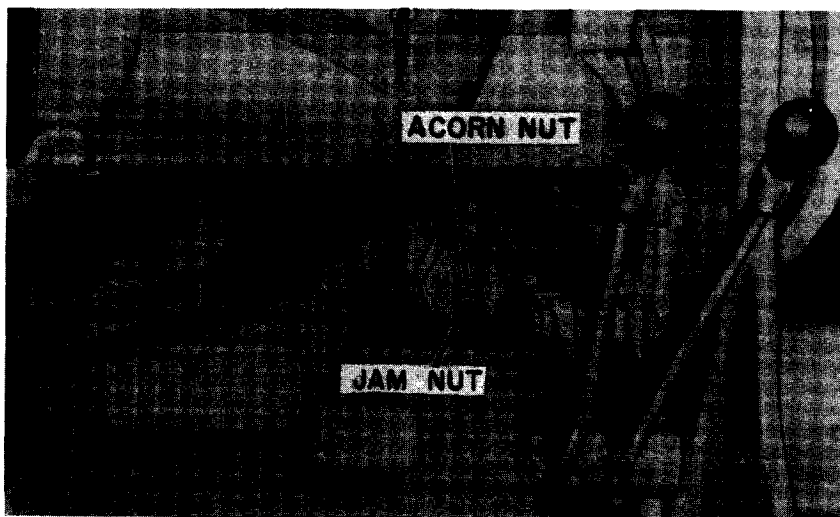

Figure 96
- A. Remove the acorn nut from the relief valve and loosen the jam nut, Figure 96.